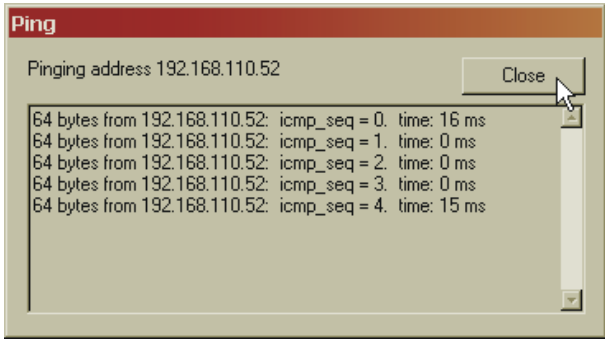

FIG. 189: PINGING HI 3000 MODULE/CONNECTION INDICATED
- Step 15. If you want to see if the HI 3000 module is connected, click on the Ping button. If the instrument is connected you should receive messages back like the ones below: (See Fig. 189)